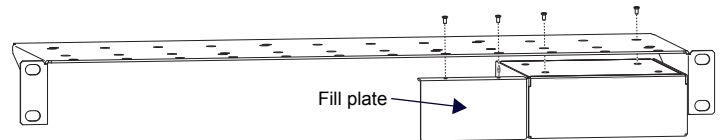

FIG. 3 INVERT TRAY AND MODULE (AND FILL PLATES IF APPLICABLE) FOR EASE OF INSTALLATION
2. Attach the rack shelf to the bottom of the encoder using the #4-40 3/16-inch undercut flat head screws (provided). Insert the screws through the underside of the rack shelf and into the holes on the bottom of the encoder. Note that only two screws are required (see FIG. 3).